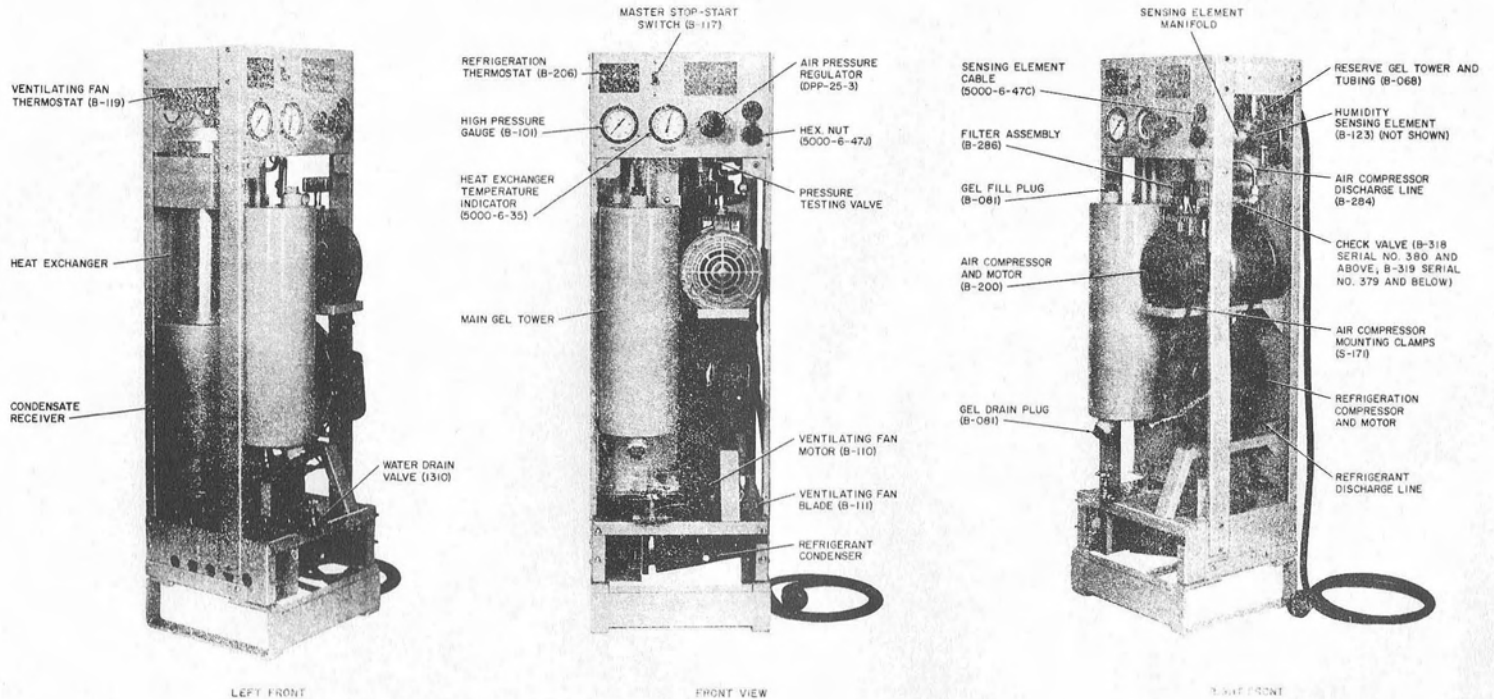

Fig. 5— $\phi$ O Air Dryer Chassis Showing Arrangement and Names of Components
- (3) If no voltage is measured across R and L2 binding posts and the heat exchanger temperature indicator shows higher than 50°F the refrigeration thermostat is defective and should be replaced. If 115 volts is measured and the temperature indicator shows higher than 50°F, the **refrigerant** discharge line (Fig. 5) should be warm to the touch indicating proper refrigeration (these conditions point to a faulty temperature indicator which should be replaced). If the discharge line is not warm, it indicates a faulty refrigeration system. In the latter case refer the condition to the supervisor so that arrangements can be made for replacement of the dryer (see information on guaranty in Section 161-315-201).
- (4) If neither the refrigeration system nor the thermostat is found to be defective, check the heat exchanger temperature indicator as follows:
**3.01** The replacement parts which can be ordered for the D air dryer are listed in 3.02. The majority of these parts are also identified by name and code number in Fig. 5.